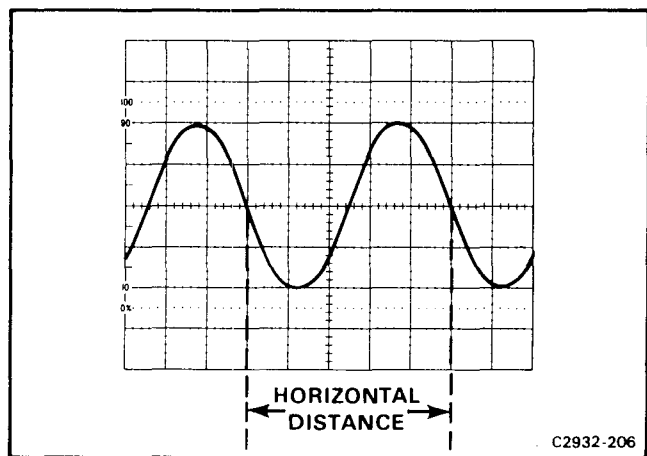

Figure 2-10. Measuring time duration (period) between points on a waveform.
2. Set the time-base triggering controls to obtain a stable display. Set the Time/Div switch to the fastest sweep rate that will permit displaying one cycle of the waveform in less than eight divisions (some nonlinearity may occur in the first and last graticule divisions of display). Refer to Figure 2-10.
**EXAMPLE:** The frequency of the signal shown previously in Figure 2-10, which has a period of 0.5 millisecond, is: